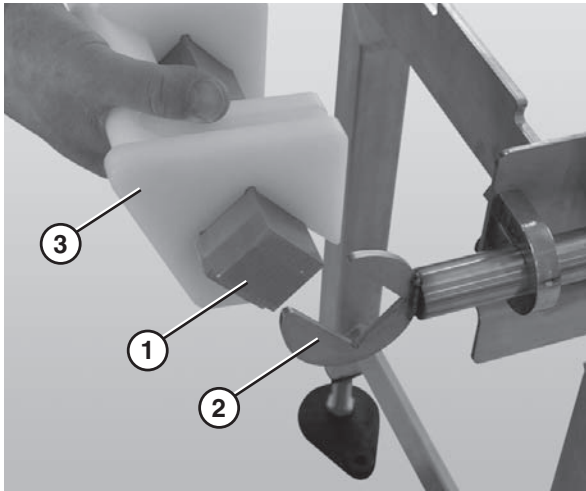

Figure 63
1. Slide the nose bar drive or transfer post (**Figure 63, item 1**) out of the nose bar drive weldment or idler hands (**Figure 63, item 2**).
2. Remove the nose bar tracking pucks (**Figure 63, item 3**), if applicable.